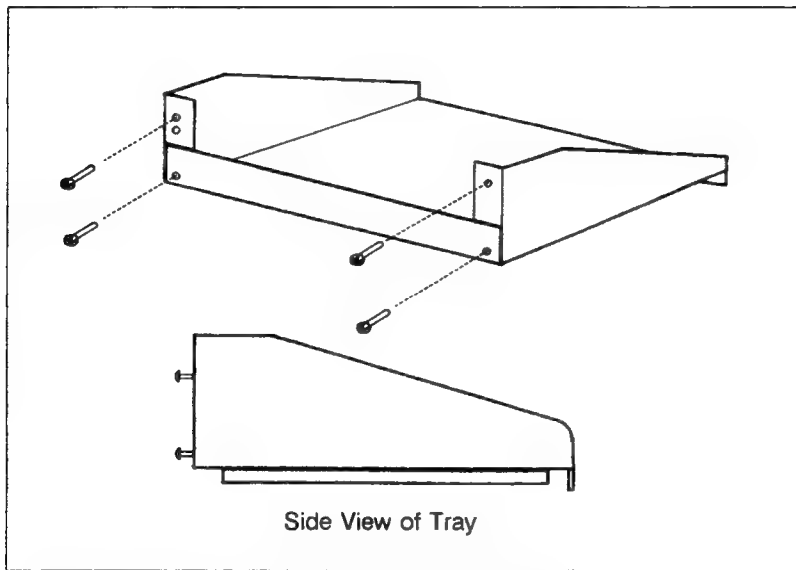

Figure 2-14. Starting the Screws in the Paper Tray
- a. Start the screws in the paper tray. Use a #2 Pozidrive screwdriver to start the four screws in the paper tray (Figure 2-14).